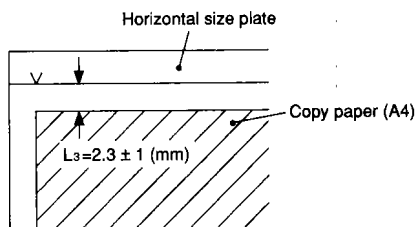

Figure 5-11
- 4) Open the RDF-C1, and check that the distance (L3) shown in Figure 5-11 or -12 is within specification.